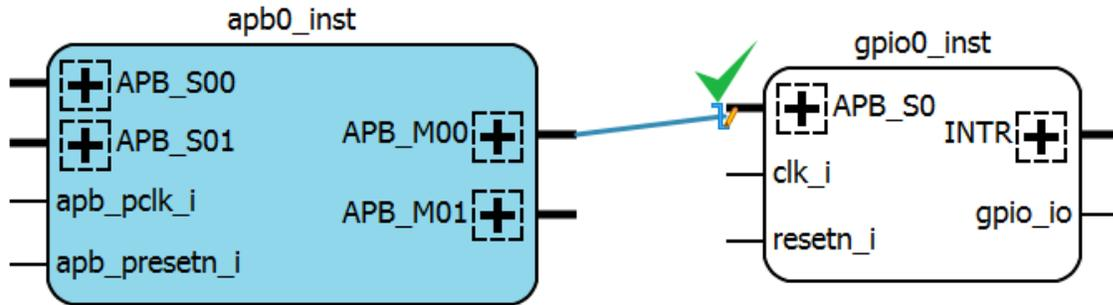
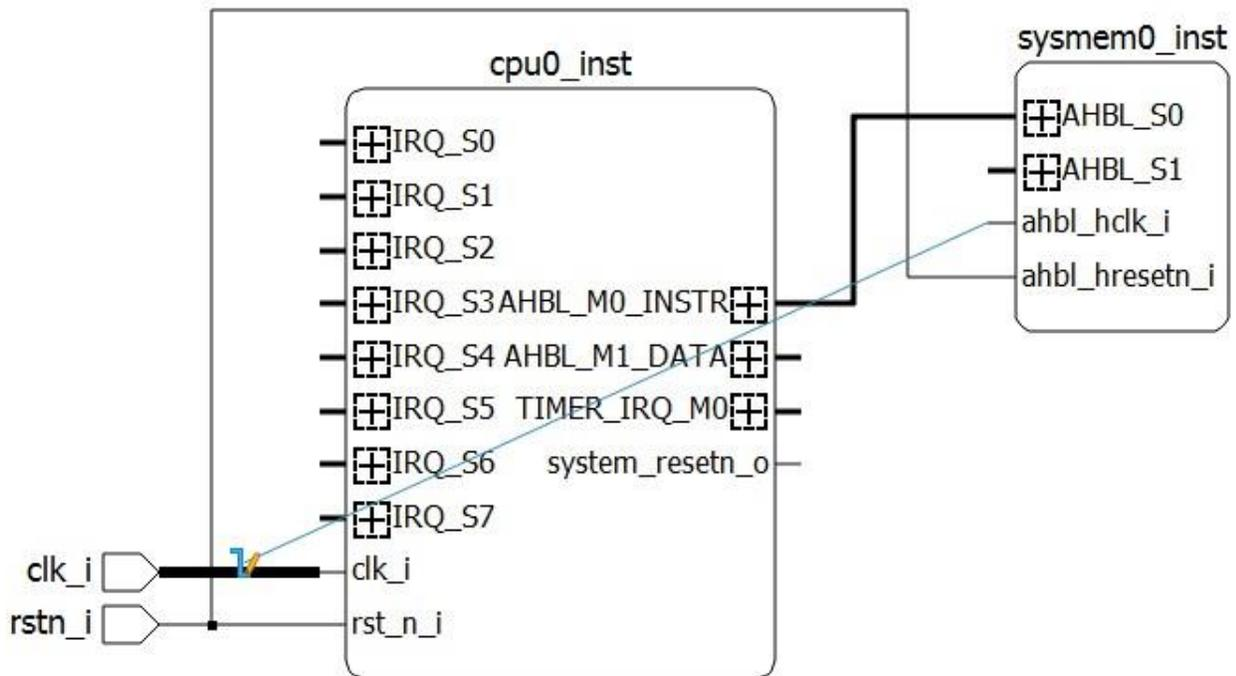

Figure 2.33. Draw a Pin or Port
Figure 2.34. Draw Nets
- Move the cursor to a pin or port. The cursor changes to a pencil icon . Click and hold while dragging to another pin, port, or net. An allowed pin or port shows a green check-mark when you hover over it (Figure 2.33). An allowed net becomes bold when you hover over it (Figure 2.34).